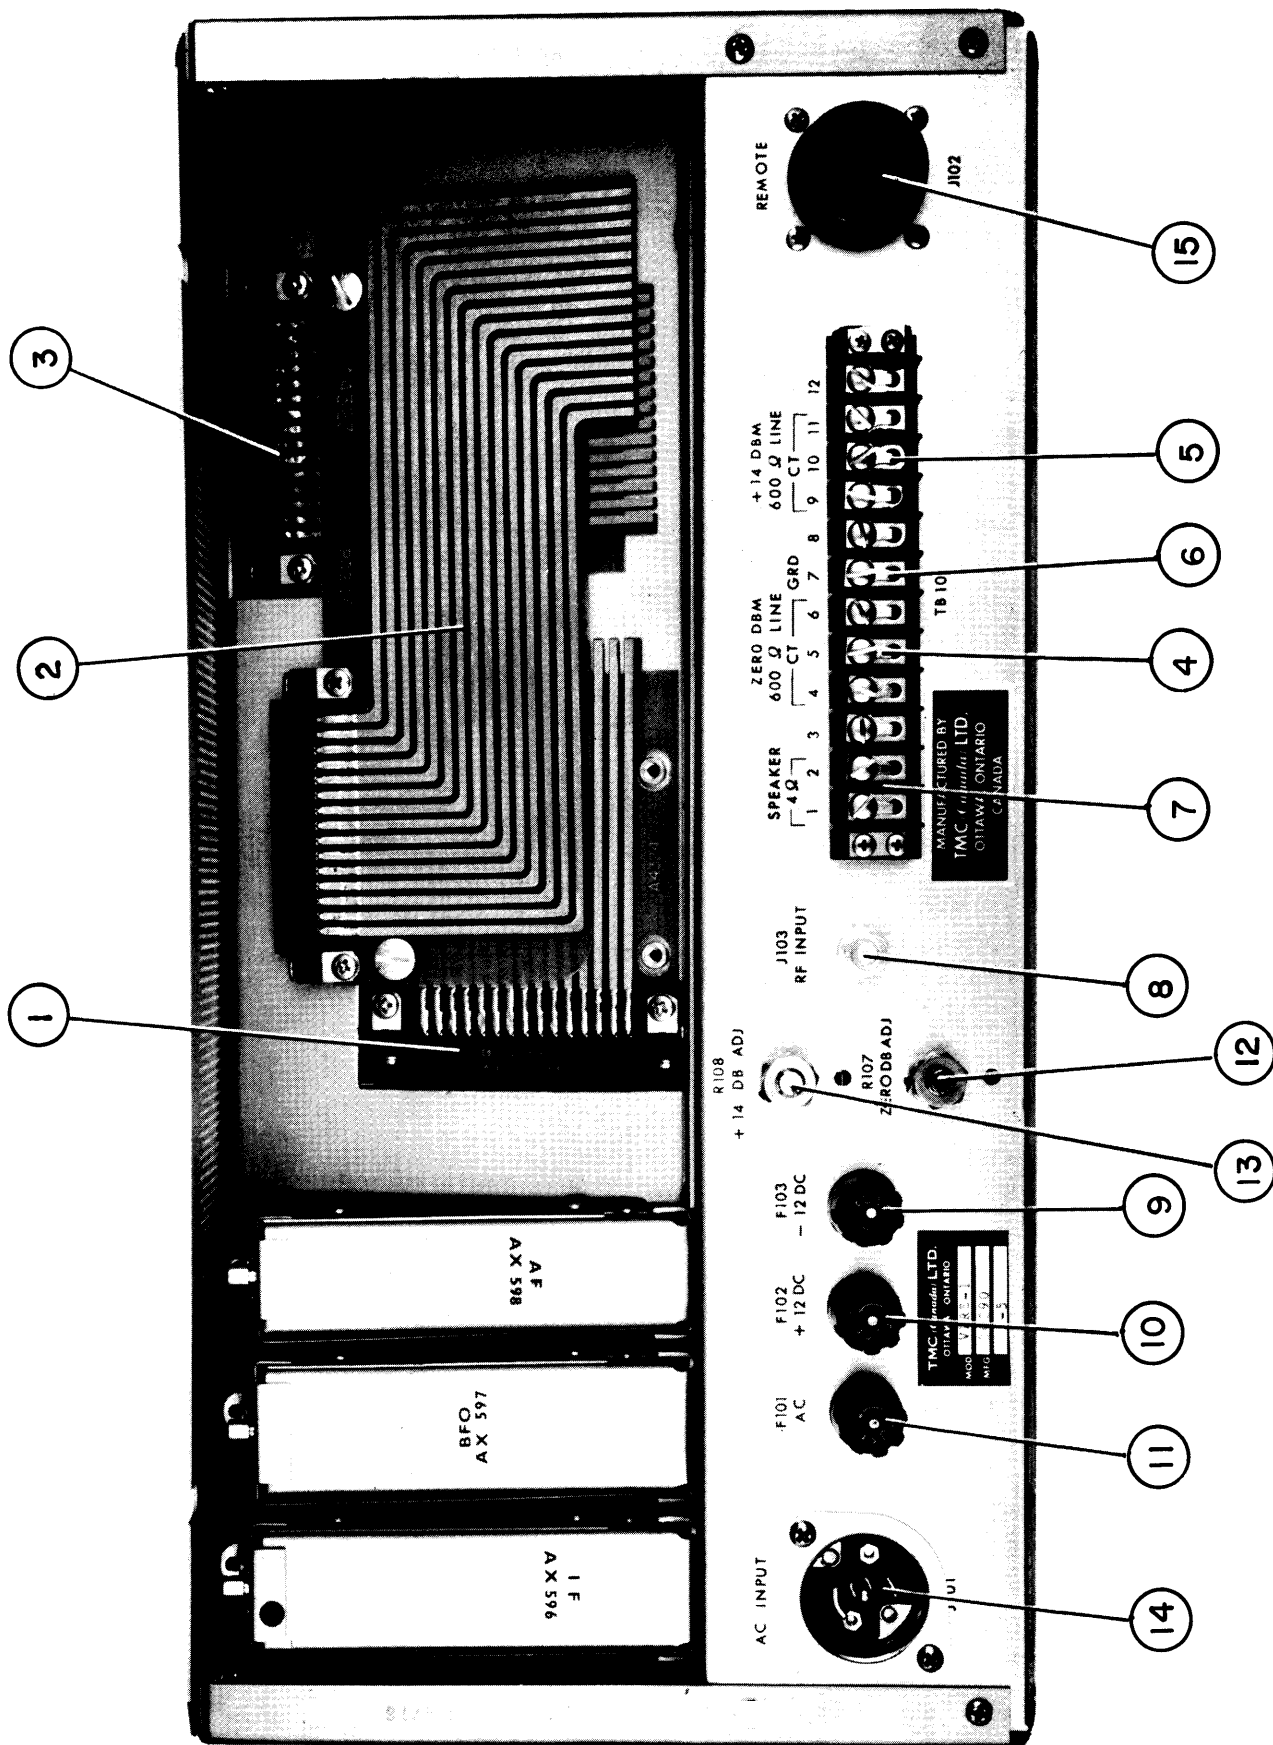

FIGURE 2-2. VLRE-1 RECEIVER REAR VIEW
- (1) Set VLRE chassis slide mechanism in tracks.
- (2) Slide chassis in tracks until release finger engages holes in track.
- (3) Make necessary cable and electrical connections as described in paragraph 2-3b.
- (4) Depress release fingers and slide unit completely into rack.
- (5) Secure front panel to rack with screws.
b. ELECTRICAL. – The VLRE should be connected to an a-c power source, to a 50-ohm antenna, and to a 4-ohm loudspeaker; optionally, the VLRE can be connected to a frequency-shift or FAX converter. If remotely controlled operation is desired, the control receiver unit can be connected to the VLRE. All connections are made to a rear-panel jack and screw terminals (see figure 2-2). Table 2-1 lists the function and component designation of controls, jacks, switches, and module extenders mounted at the rear of the unit.